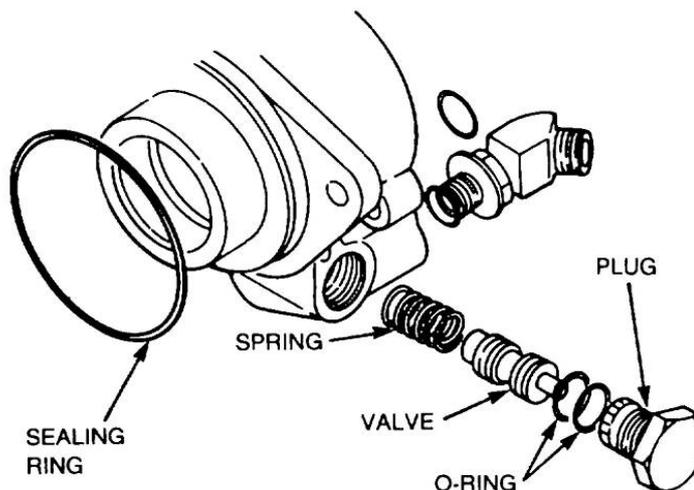

Figure 144 Removal of the Flow Control Assembly
- c.** Remove the plug from the pump body and withdraw the flow control assembly (Figure 144).